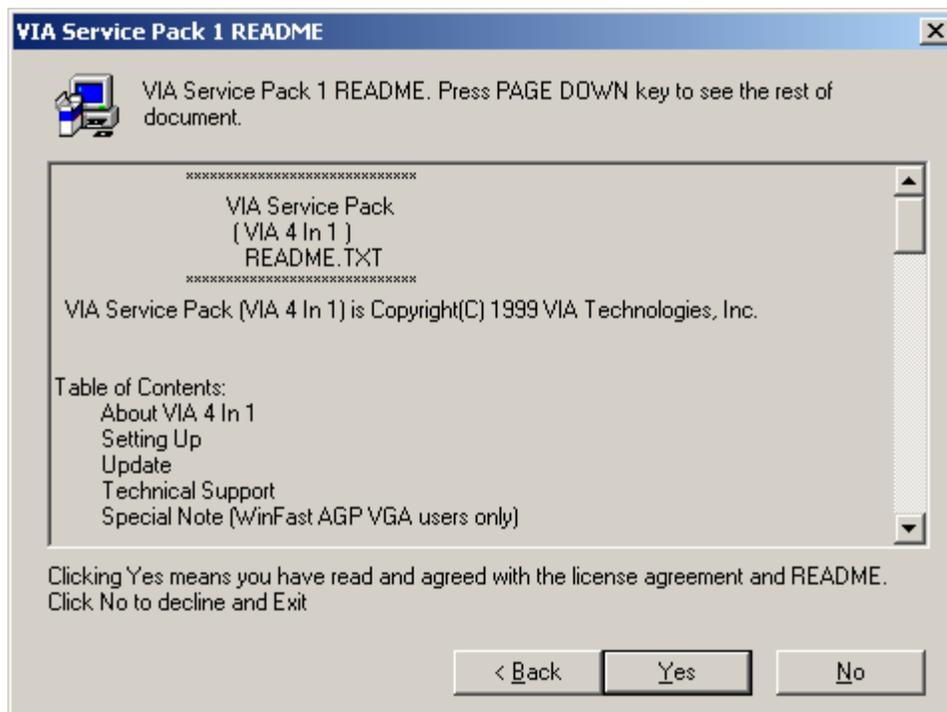

Figure 6-5: Readme Information
Step 6: The “Readme” in **Figure 6-5** appears. Click “NEXT” to continue the installation.